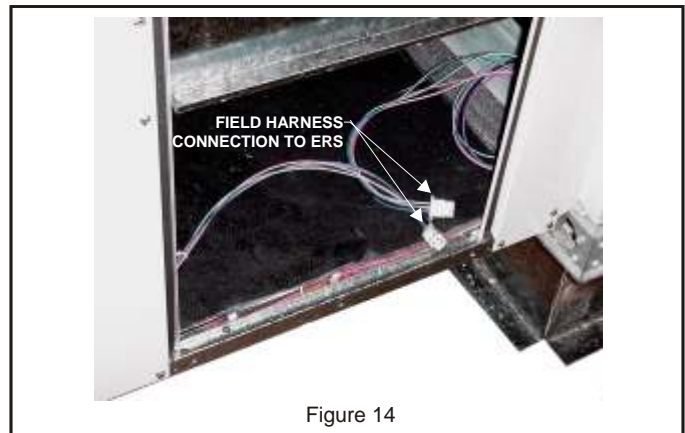
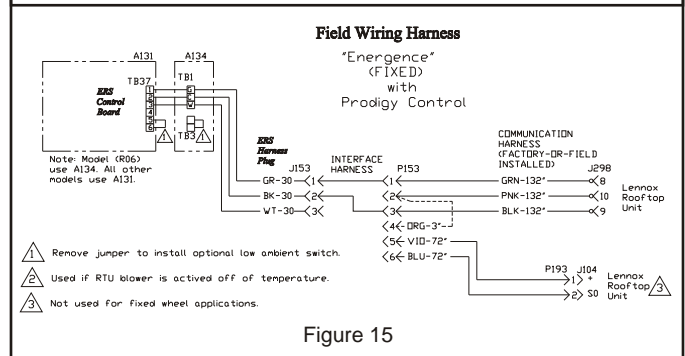

Figure 14
Figure 15
- Remove the right front (rooftop unit side) access panel and locate the field wiring harness that was previously routed into the return air of the rooftop unit. Plug the field wiring harness into the connector located at the bottom of the access door inside the ERS. **See Figure 14 and Figure 15.**